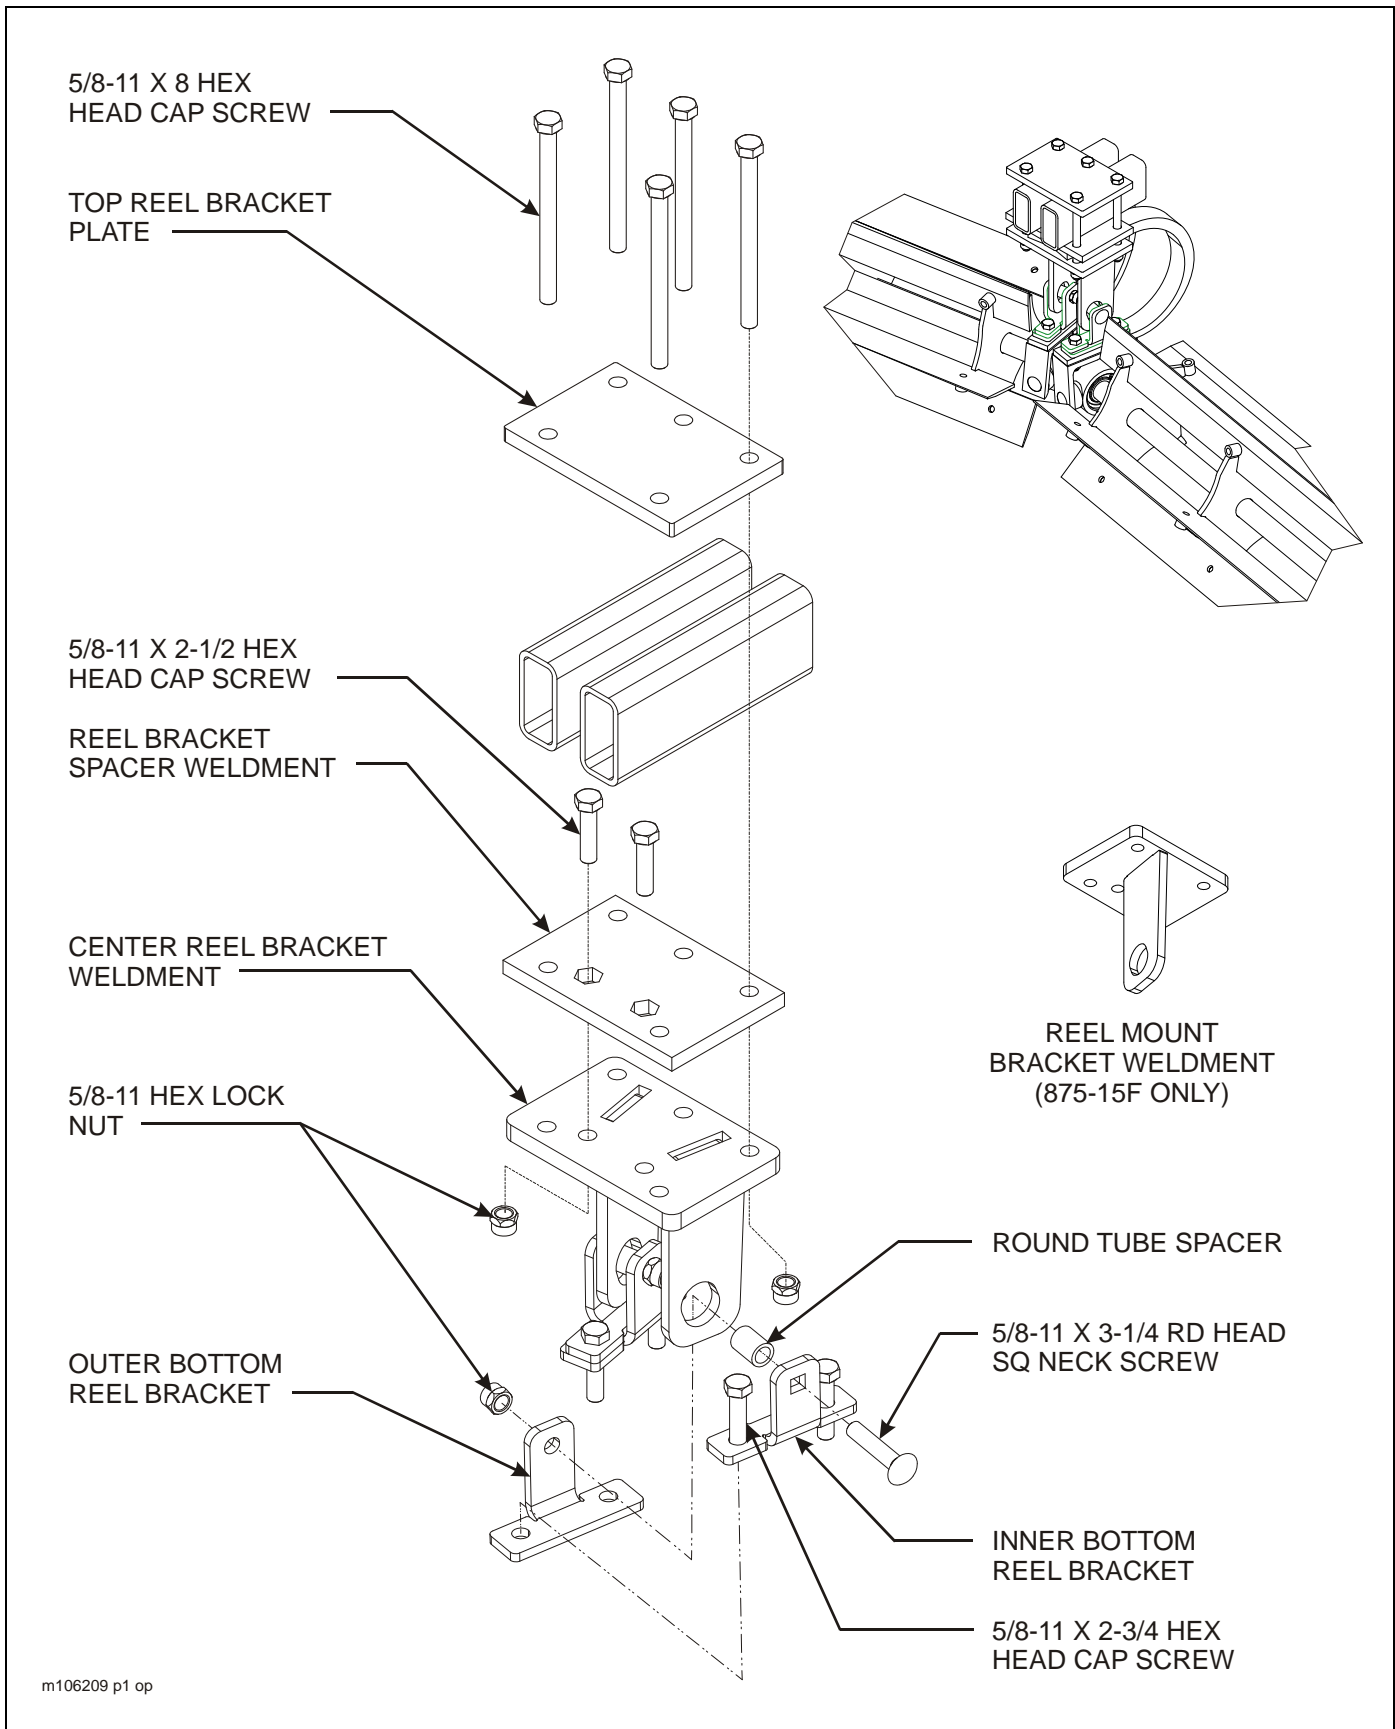

Figure 3-12: Center Reel Assembly Installation
- b. The inner reel bracket (with square hole) must be placed toward the reel blades (**See Figures 3-12 and 3-13**).
- h. Carefully lift reel assembly and loosely bolt top reel bracket plate to frame as shown in **Figure 3-12** using 5/8-11 x 8 hex head cap screws and hex lock nuts (**See Figures 2-1 through 2-7 for location on frame.**)
- a. Set inner bottom reel bracket on top of outer bottom reel bracket and loosely attach to top reel guard bracket using 5/8-11 x 3-1/4 round head square neck screw, round tube spacer, and hex lock nut. The inner reel bracket (with square hole) must be placed toward the reel blades (**See Figures 3-12 and 3-13**).